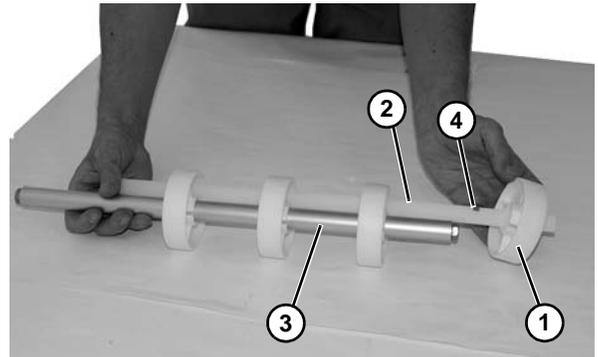

Figure 61
4. Remove rollers (Figure 61, item 1) and alignment bar (Figure 61, item 2) from shaft (Figure 61, item 3). Inspect and replace if worn.
5. Reinstall rollers and alignment bar, with each roller lining up with cutout area (Figure 61, item 4) on alignment bar.